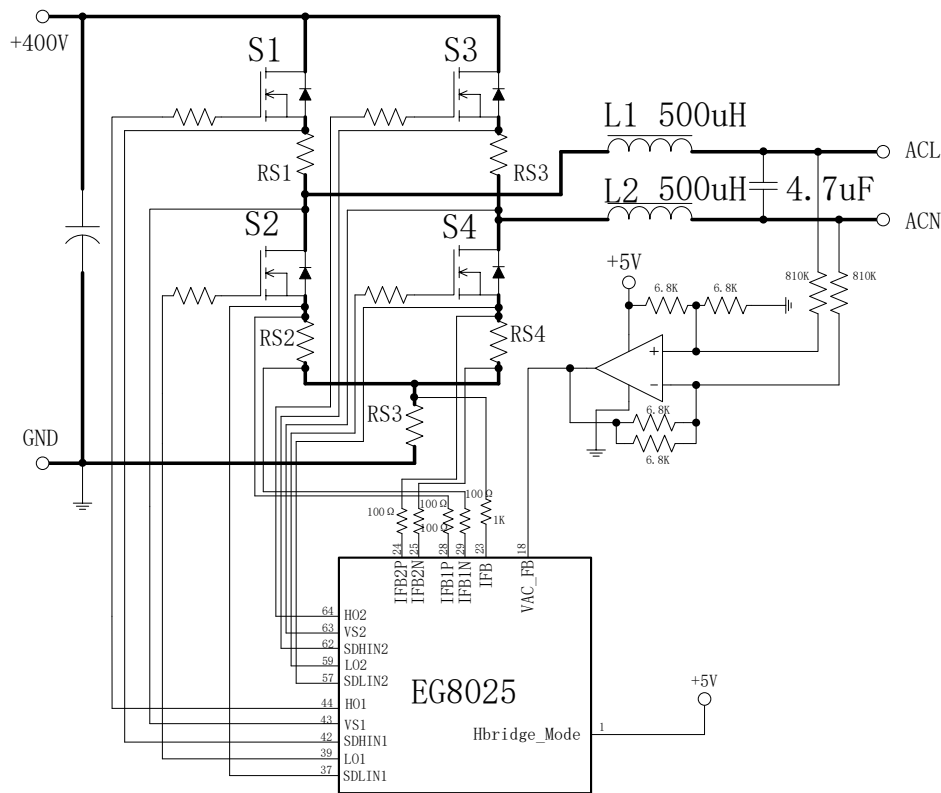

Figure 8.7b The application circuit with HBridge\_Mode “1”
**The application circuit with HBridge\_Mode "1" is shown in Fig 8.7b.**